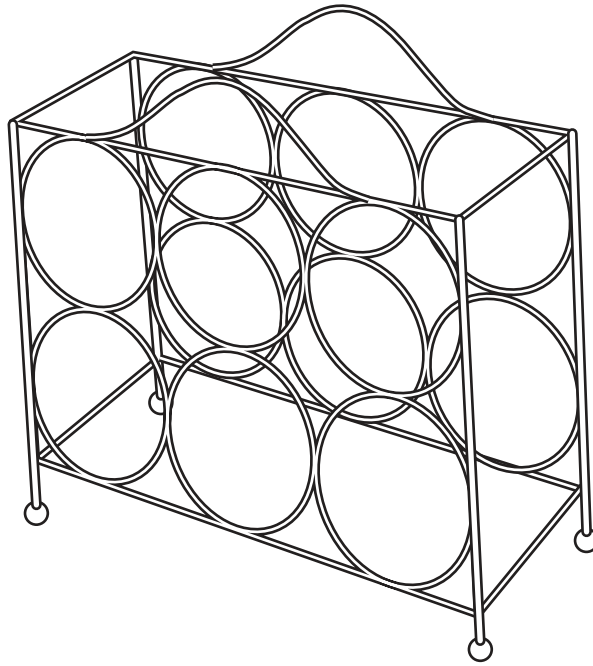

Fig. 2
- 5 Fig. 2 shows a bottle rack made from steel wire.